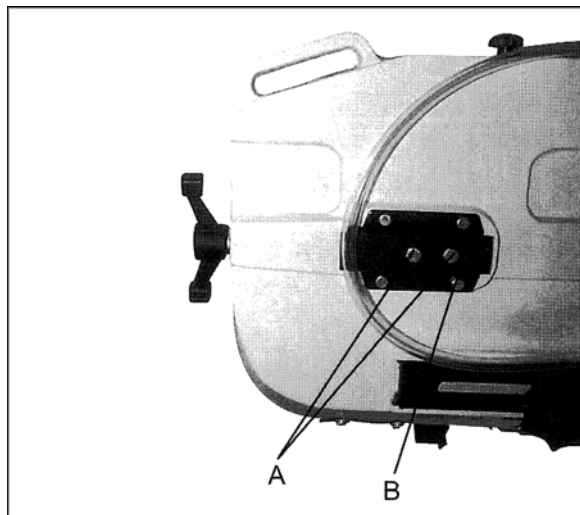

Figure 18
5. Loosen bolts (A, Figure 18).
6. Turn set screw (B, Figure 18) while observing the blade tracking on the wheel. Turn set screw clockwise to track the blade closer to the wheel flange. Turn set screw counter-clockwise to track blade away from wheel flange.
7. Once tracking is set, tighten bolts (A, Figure 18).